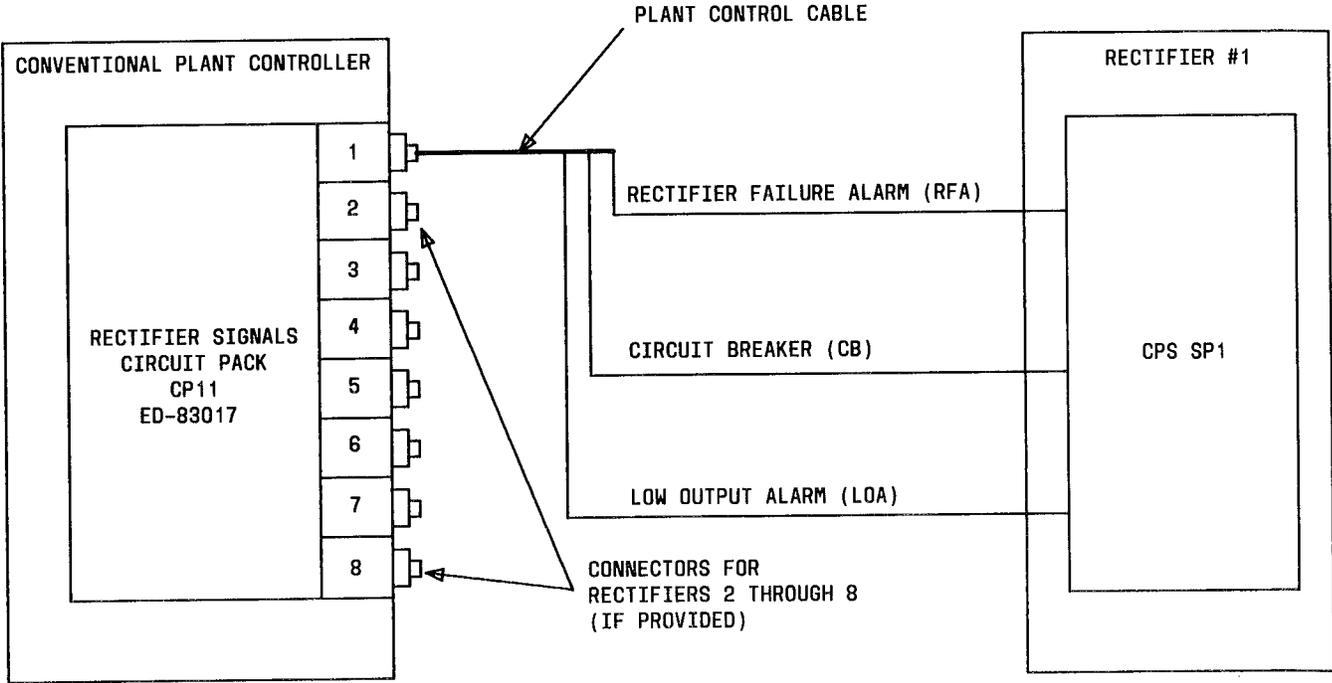

Fig. 7—Signal Flow Between Rectifier and Conventional Plant Controller
3.07 The interface between the rectifier and the conventional plant controller is the CPS SP1 circuit pack located in each rectifier. Refer to Fig. 7 for a block diagram of the signals monitored between the rectifier signals circuit pack(s) ED-83017 (CP11) in the conventional plant controller and the CPS SP1 circuit pack in each rectifier. The circuit pack receives signals from the plant controller to shut down